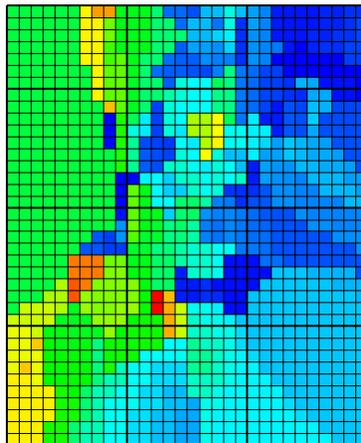
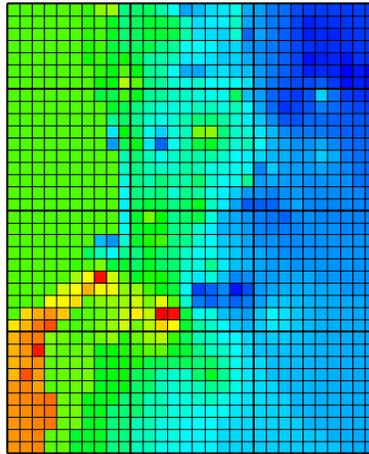

Figure 56. Distribution of Kx in the top layer of the Biscayne Bay aquifer model when the **Nearest** interpolation method is used.
Figure 57. Distribution of K_x in the top layer of the Biscayne Bay aquifer model when the **Inv. Dist. Sq.** interpolation method is used.
This example uses interpolation for several user-defined data sets. Several different interpolation algorithms are available in GoPhast. In this section, the effects of changing the interpolation algorithm will be explored. To do this, the grid will be colored using the Kx data set and then the interpolation algorithm for several user-defined data sets will be changed to see how that affects the results. The user may not get identical results to those illustrated for the **Nearest** interpolation method (fig. 56) and for the **Inv.Dist. Sq.** interpolation method (fig. 57). This is because the user most likely will not have cells in precisely the same locations as those used to generate figures 56 and 57.
32. Select **Data|Color Grid...** Select the **Kx** data set and click the **OK** button. After hiding all objects, the grid should look similar to figure 56.
33. Select **Data|Edit Data Sets...** Select the “Upper_Aquifer_Transmissivity” data set, change its **Interpolation** to **Inv. Dist. Sq.** (Inverse distance squared) and click **OK**. The grid should look similar to figure 57. The hydraulic conductivity at each element in the upper aquifer is